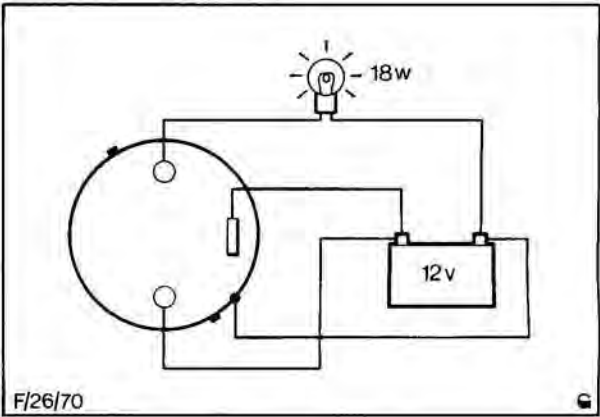

Fig. 10. Solenoid operation check
- B. With both solenoid cables still disconnected, connect a new test circuit, Fig. 10, this time with a high wattage (18–21 watts) bulb, between the solenoid main terminals. Energise the solenoid by applying 12 volts between the spade terminal and a good earthing point on the solenoid body. The solenoid should be heard to operate and the test bulb should light fully indicating closure of the solenoid contacts.